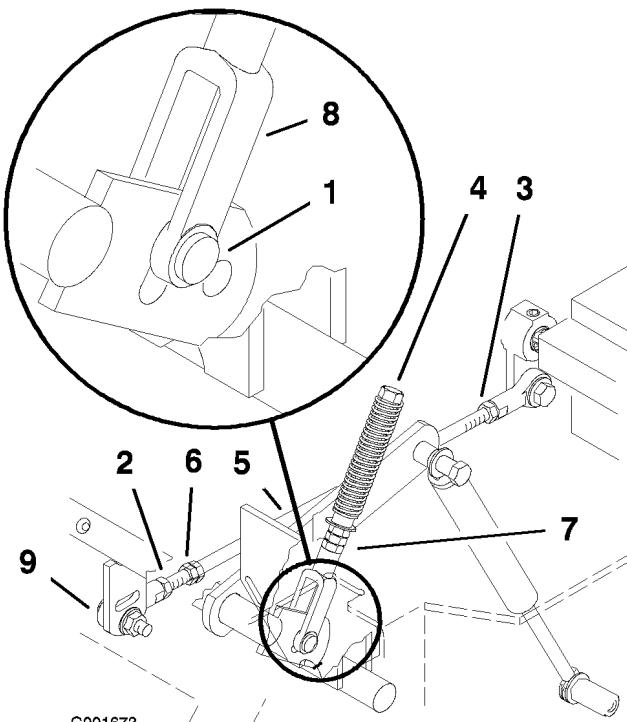

Figure 54
- Pull the lever back until the clevis pin (on the arm below the pivot shaft) contacts the end of the slot (just beginning to put pressure on the spring) (Figure 54).
8. If adjustment is needed, loosen the nut and jam nut against the yoke (Figure 54).
10. Tighten the nut and jam nut (Figure 54).